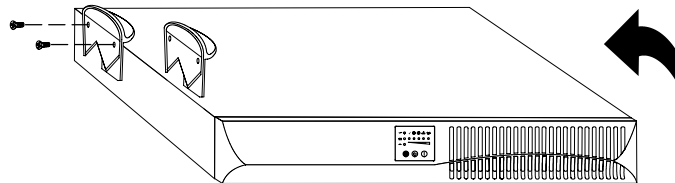

Figure 9. Installing UPS Pedestals (for Two Cabinets)
6. Place the UPS cabinet horizontally so that the left end of the cabinet is accessible (see Figure 9).